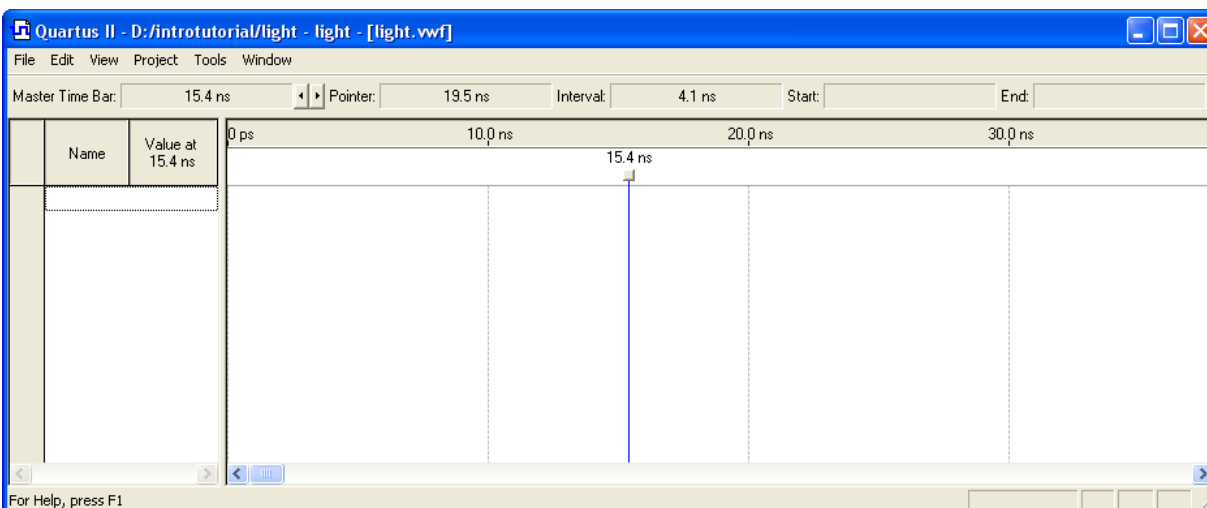
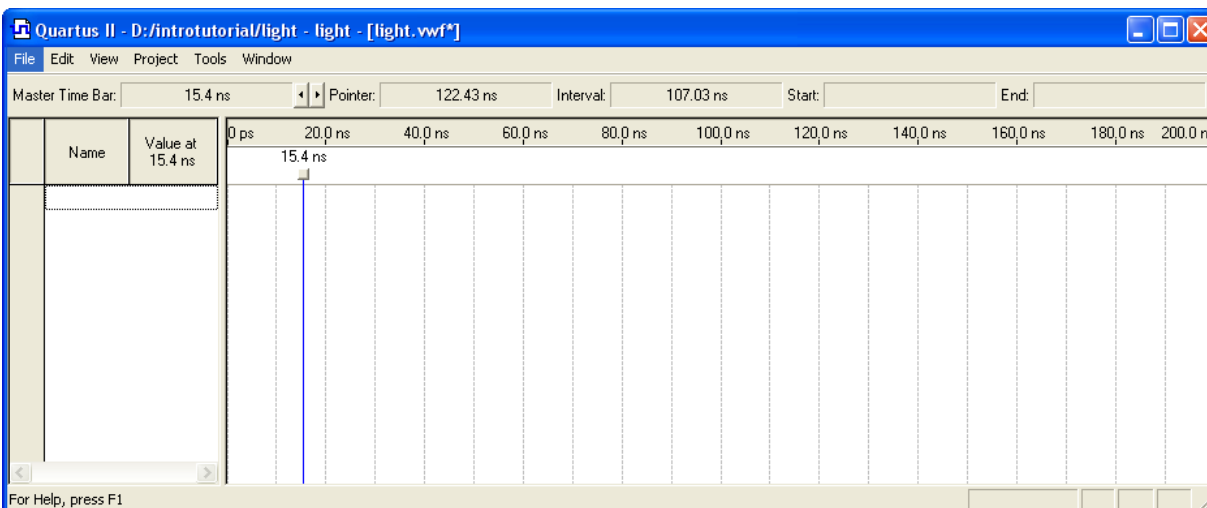

Figure 31. The Waveform Editor window.
Figure 32. The augmented Waveform Editor window.
2. The Waveform Editor window is depicted in Figure 31. Save the file under the name *light.vwf*; note that this changes the name in the displayed window. Set the desired simulation to run from 0 to 200 ns by selecting **Edit > End Time** and entering 200 ns in the dialog box that pops up. Selecting **View > Fit in Window** displays the entire simulation range of 0 to 200 ns in the window, as shown in Figure 32. You may wish to resize the window to its maximum size.